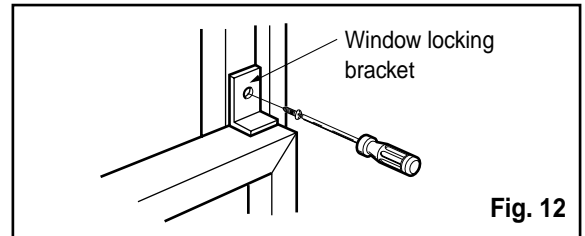

Fig. 12
9. Attach the Window locking bracket with a screw (Type C.) (See Fig. 12)